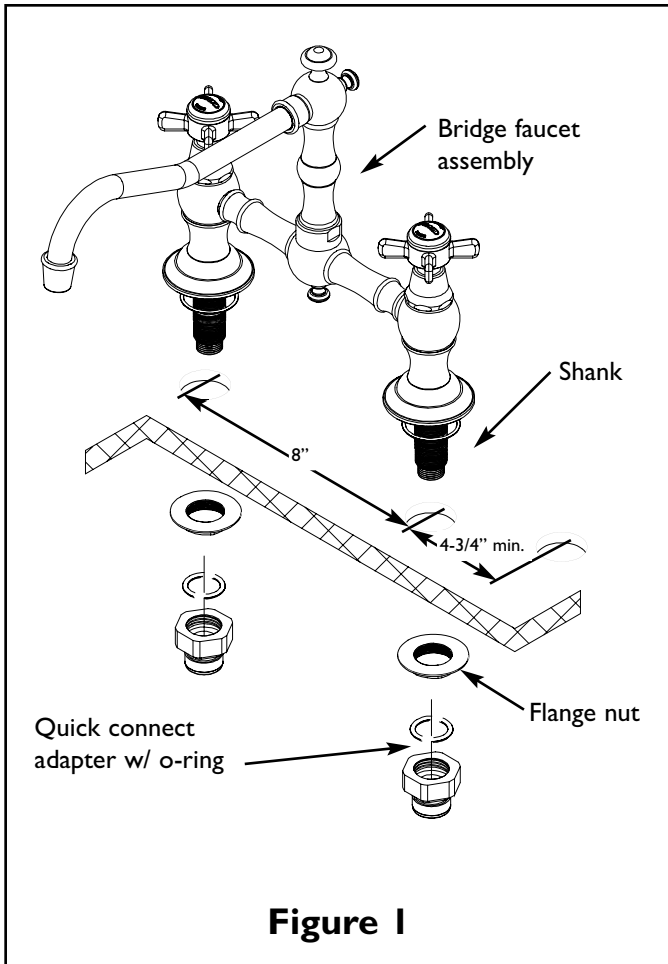

Figure 1
1. Place bridge faucet body through holes on mounting surface and secure into place with flange nuts. See Fig. 1.
2. Thread quick connect adapter, with o-ring inserted, onto the base of each shank. See Fig. 1.